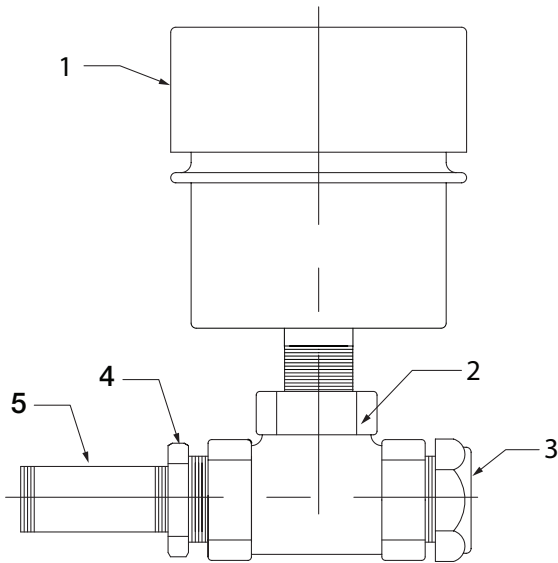
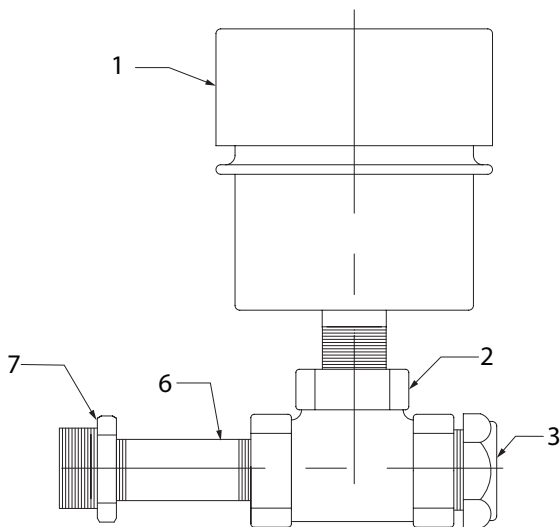

Figure 3 - Position D Breather Kit (MTA2–MTA3)
Figure 4 - Position D Breather Kit (MTA4–MTA8)
1. Assemble position D breather kit as shown in Figure 3 (MTA2–MTA3) or Figure 4 (MTA4–MTA8).
② 1	Expansion Chamber	240053	1	1
② 2	1/2 Pipe Tee	034720004AB	1	1
② 3	Oil Sight Gauge	430121
② 4 ③	1/2 x 3/8 Hex Bushing	034600006AB	1	–
② 5	Pipe Nipple 1/2 x 3	034530024DB	1	1
② 6	Pipe Nipple 3/8 x 3	034530024CB	1	1
② 7 ④	3/4 x 1/2 Hex Bushing	034600010AB	–	1
- ① Refer to Figure 3 or Figure 4
- ② Makes up assembly under which it is listed
- ③ This part is used only on MTA 2–MTA 3
- ④ This part is used only on MTA 4–MTA 8